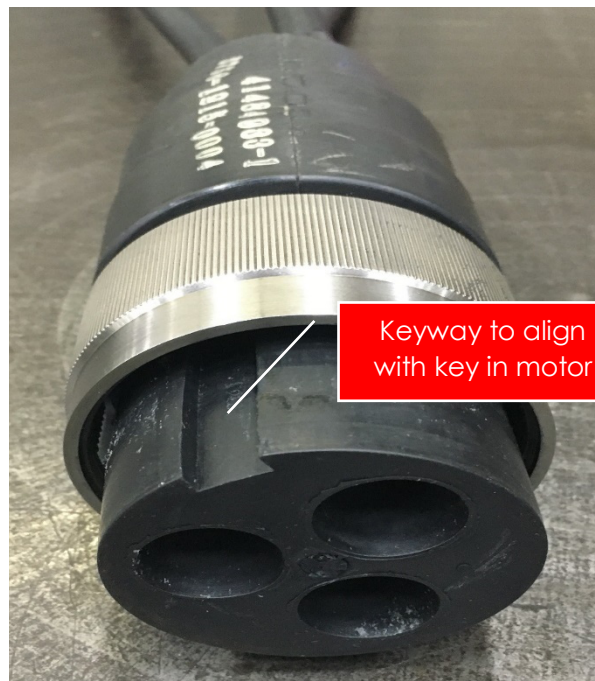

Figure. 5.2.8k MLE with keyway
1. See Fig. 5.2.8k Align keyway in MLE connector with key in the motor terminal receptacle. Apply a downward force to engage the cable connector and motor terminal receptacle.